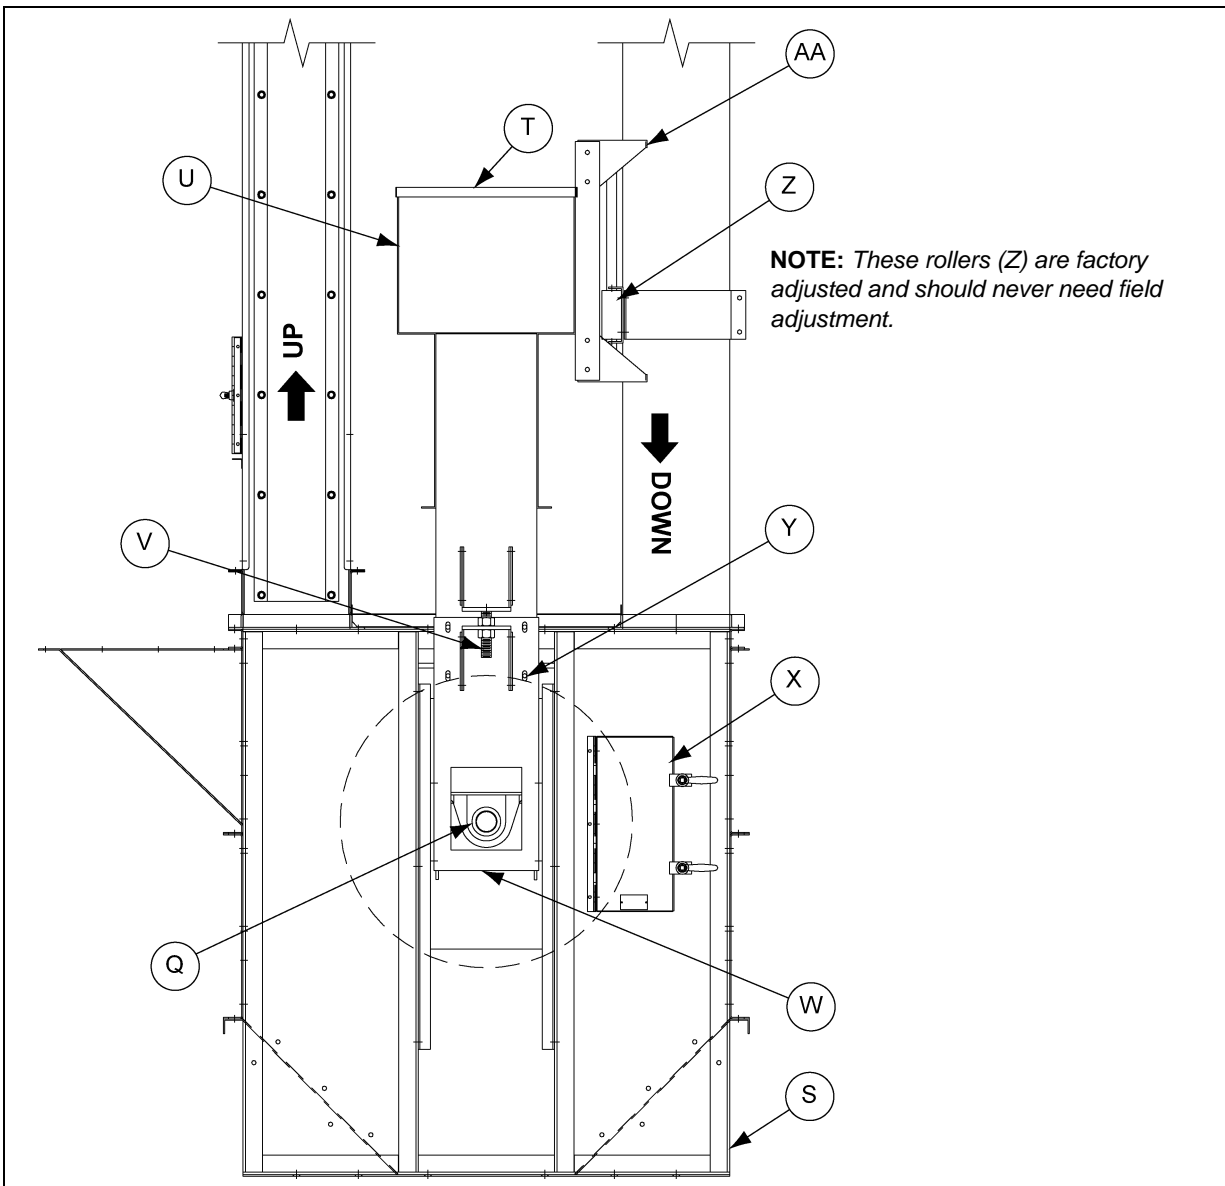

Figure 40 Posi-Guide Gravity Take-Up
2. If the elevator includes a posi-guide gravity take-up as shown in Figure 40, position a jack under the indicated surface of the take-up side post to lift the take-up, including the pulley.